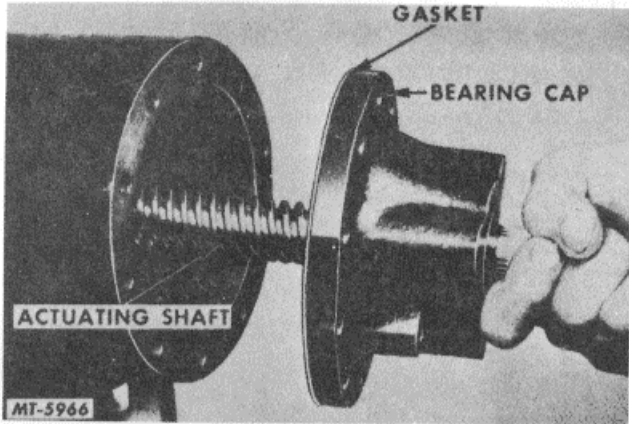

Fig. 13
11. Remove bolts from the bearing cap, then turn the actuating shaft and bearing cap out of the actuating valve, Fig. 13.